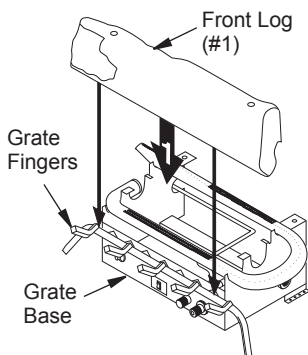

Figure 23 - Installing Front Log (#1)
1. Place front log (#1) on grate fingers. Make sure front log rests firmly between grate fingers and grate base (see Figure 23).